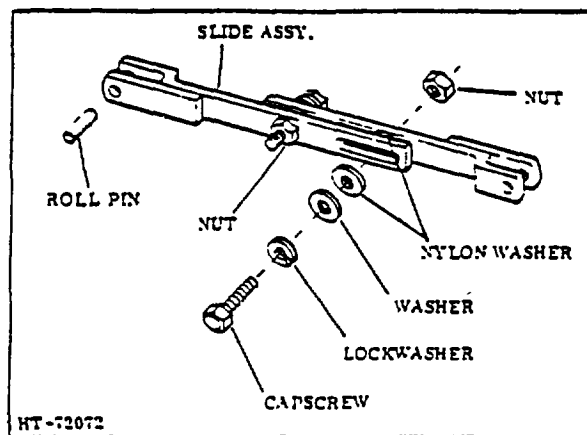

Figure 6. Brake Self-Adjuster
1. If self-adjusted link is inadvertently disassembled, it must be reassembled exactly as originally constructed (Figure 6). Torque capscrews to 14 16 inch lbs., and lock outs to 29 inch lbs. Slip resistance must be from 250 to 300 lbs. and link should be fully retracted when assembly is completed.
3. Refer to Figure 6, and replace brake line fitting, copper washers, and outlet fitting bolt.